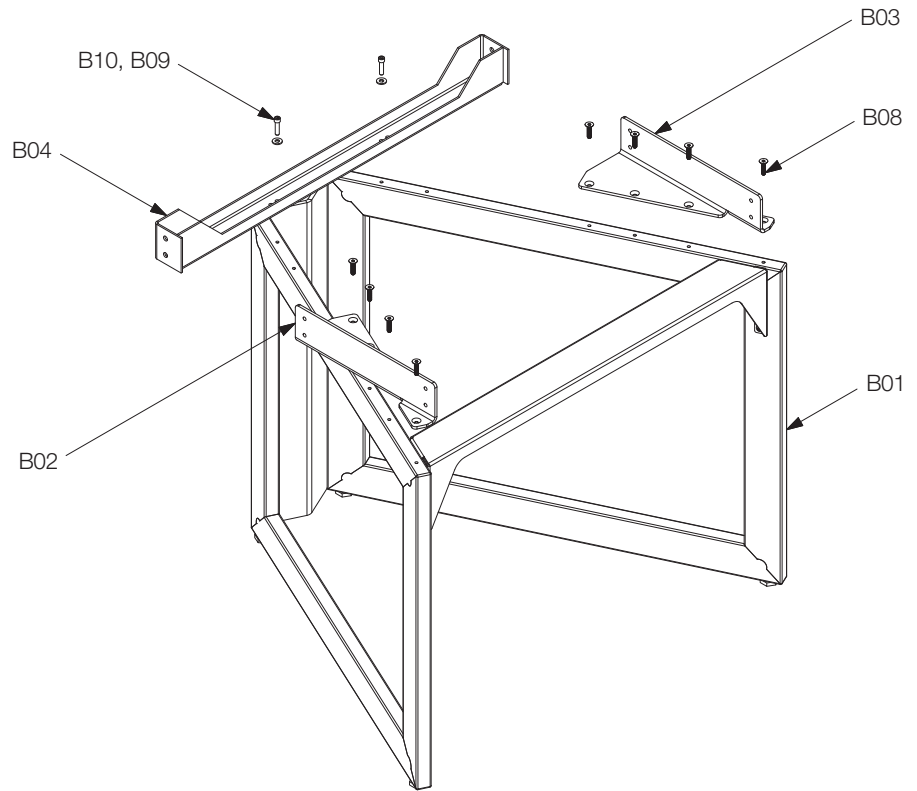

Fig. 01: End base
- 1.1. Assemble mounts (B02 and B03) to frame assembly (B01) using fastener (B08), 4 places each mount. (See Fig. 01)
- 1.2. If bases are equipped with brace (B04), assemble it to the frame assembly (B01) using fastener (B09) and washer (B10), 2 places. (See Fig. 01)